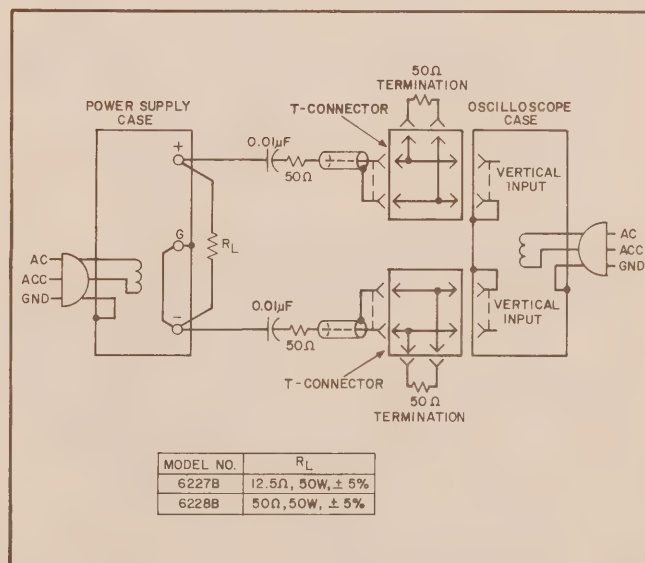

Figure 5-4. Noise Spike Measurement Test Setup
- As shown in Figure 5-4, two coax cables must be substituted for the shielded two-wire cable.
5-26 The setup of Figure 5-4 can also be used for the normal measurement of low frequency ripple; simply remove the four terminating resistors and the blocking capacitors and substitute a higher gain vertical plug-in in place of the wide-band plug-in required for spike measurements. Notice that with these changes, Figure 5-4 becomes a two-cable version of Figure 5-3C.